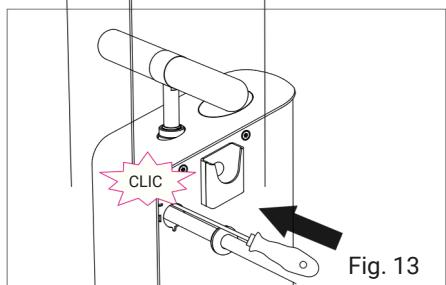
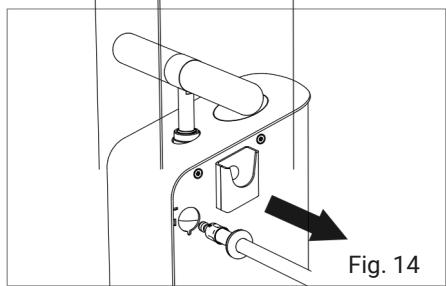

Fig. 13
Fig. 14
- 2 Then insert a screwdriver parallel to the hose into the housing (Fig. 13). You will feel resistance after approx. 50 mm. Press firmly on this resistance with the screwdriver. When you hear a short click, the hose has come out of the fitting. You can now remove the hose and put it aside (Fig. 14).